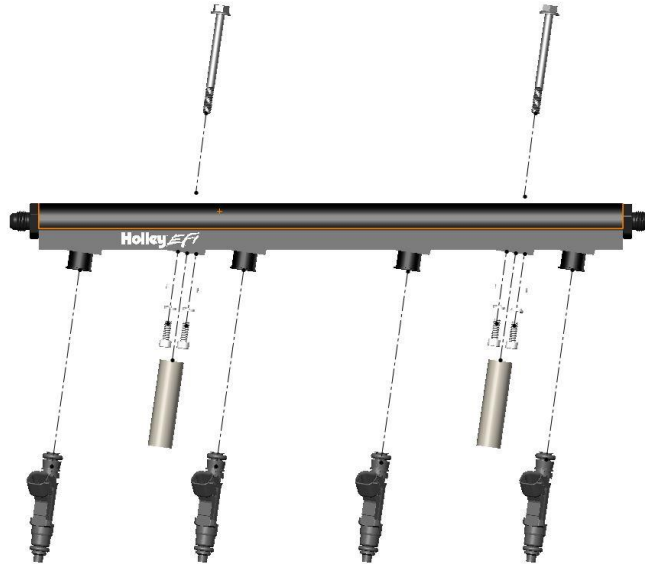

**Figure 1**
10. Install the -6 O-ring fittings onto each end of the rails before installing the rails on the intake (**Figure 1**). Lubricate with clean oil.